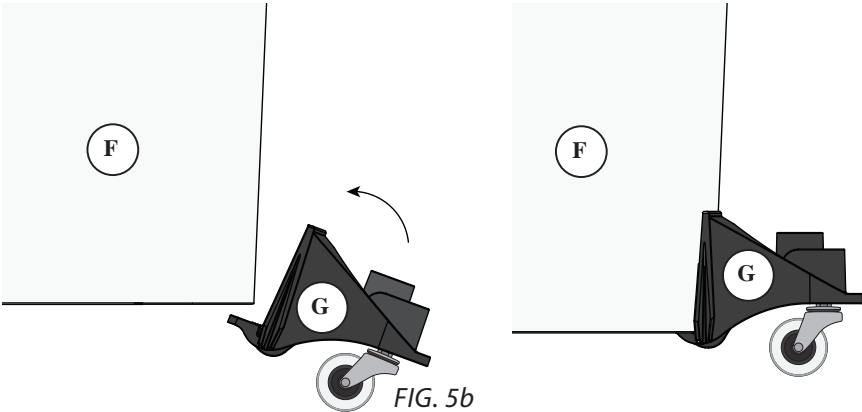

FIG. 5b
Remove the backing paper from the Double Sided Tape (H) on the Caster assembly. Rest the lip of the Caster assembly against the bottom of the Bucket and then rotate the Caster assemblies flush against the side of the Bucket. Press firmly for a secure fit [FIG. 5b].